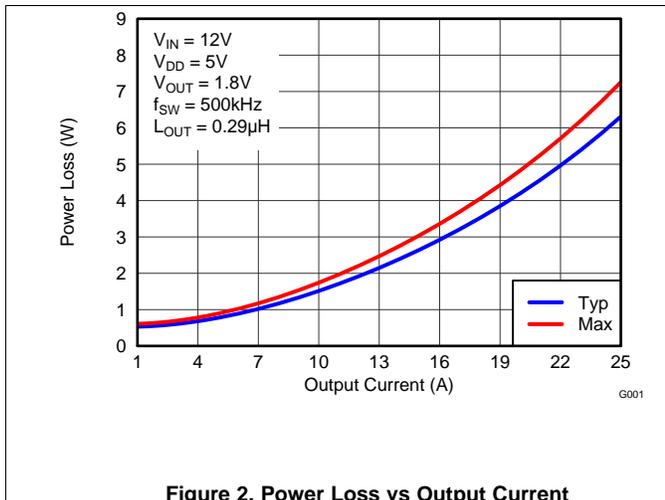
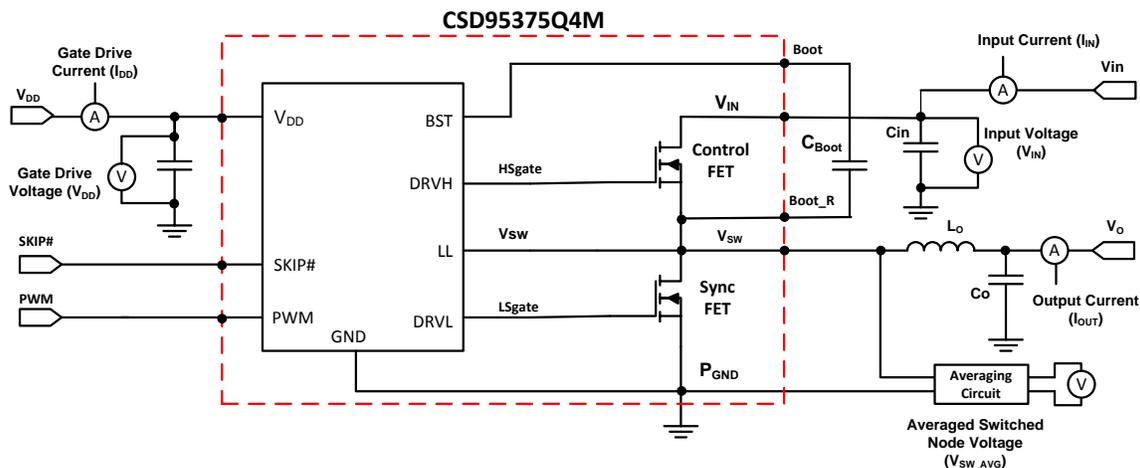

Figure 2. Power Loss vs Output Current
Figure 14. Power Loss Test Circuit
MOSFET centric parameters such as  $R_{DS(ON)}$  and  $Q_{gd}$  are primarily needed by engineers to estimate the loss generated by the devices. In an effort to simplify the design process for engineers, Texas Instruments has provided measured power loss performance curves. Figure 2 plots the power loss of the CSD95375Q4M as a function of load current. This curve is measured by configuring and running the CSD95375Q4M as it would be in the final application (see Figure 14). The measured power loss is the CSD95375Q4M device power loss which consists of both input conversion loss and gate drive loss. Equation 1 is used to generate the power loss curve.
The power loss curve in Figure 2 is measured at the maximum recommended junction temperature of  $T_J = 125^\circ\text{C}$  under isothermal test conditions.
- Typical Power Loss at 10 A = 1.5 W (Figure 2)